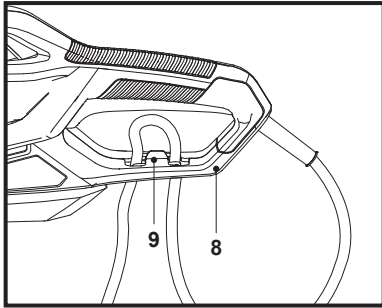

Fig. 2a
1. Double the extension cord back, about 30 cm from the end and lead the loop through the hole of the rear safeguard (8) (Fig. 2a).